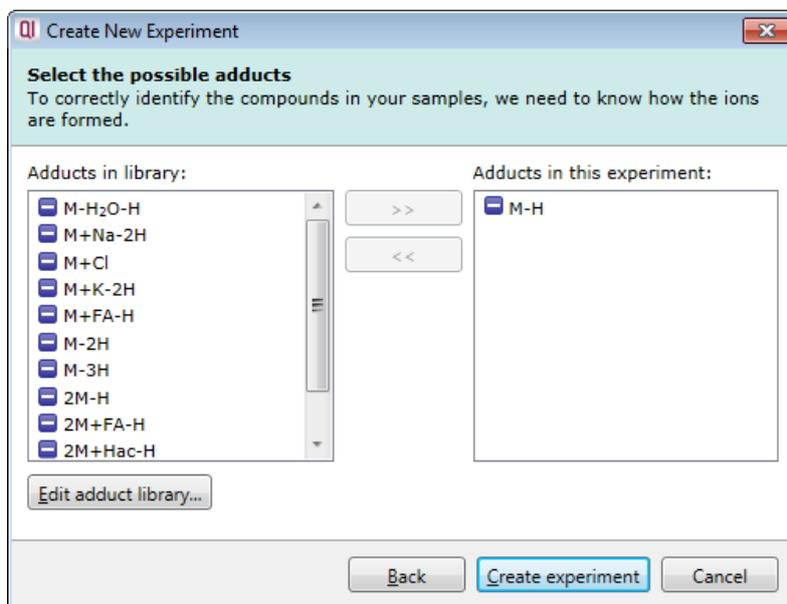

Figure 4: Creating a new experiment – defining the adducts that may be present in the experiment. For the demonstration data, M-H is selected.
7. In the next dialog box, select adducts appropriate to your ionisation method (Figure 4). At the identification stage of the workflow, these adducts will be considered as potentially being present.